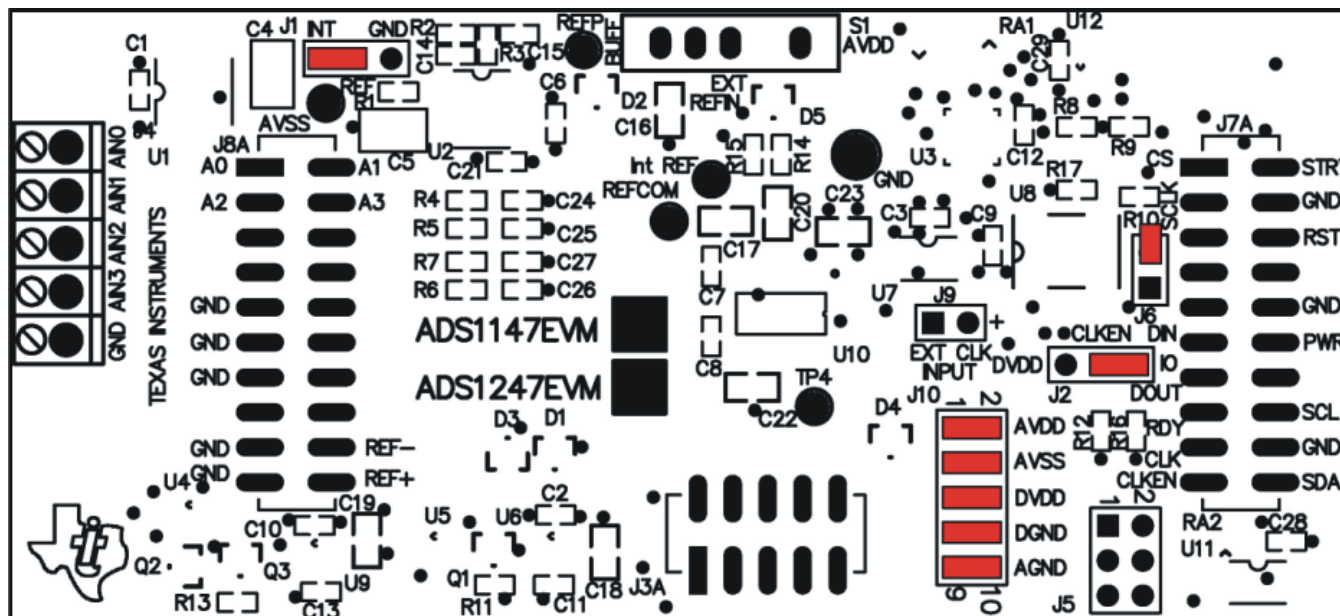

Figure 3. ADS1247EVM Default Jumper Locations
Figure 3 shows the jumpers found on the EVM and the respective factory default conditions for each.
Step 4. Set the jumpers and switches on the ADS1247EVM as shown in Figure 3 (note that these settings are the factory-configured settings for the EVM).